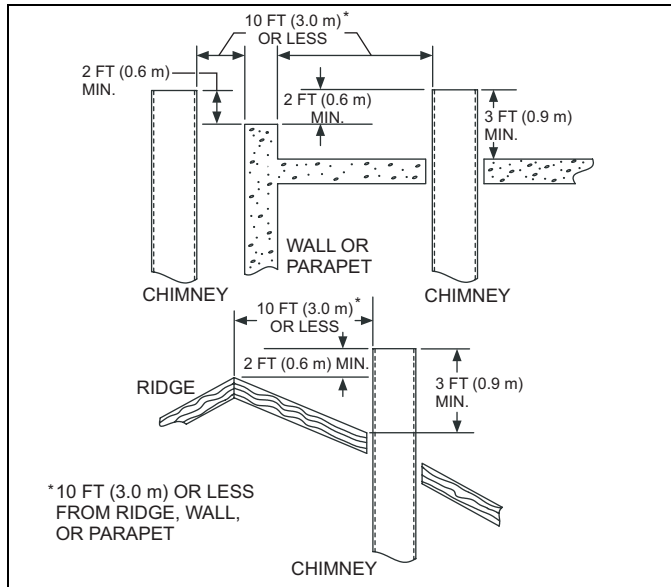

FIGURE 18: Vent Termination 10 ft. (3.0 m) or less
Connect the control wiring as shown in Figure 18.
3. Install a separate 24V relay as shown in Figure 18. Use of this relay is required, as it ensures that the transformers of the two furnaces are isolated, thus preventing the possibility of any safety devices being bypassed.